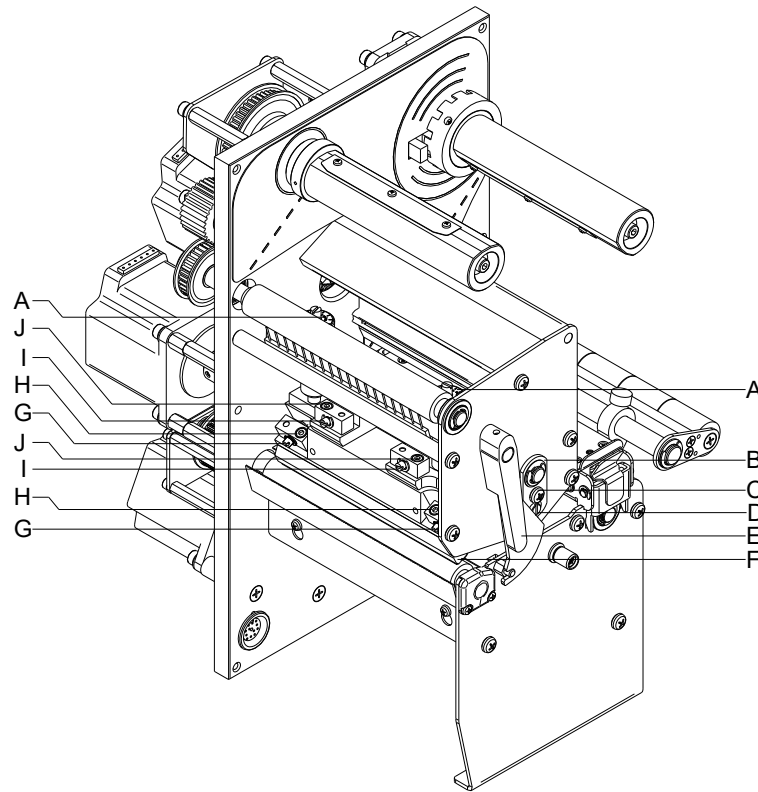

Figure 18
1. Loosen the screws (H or J, Figure 18) with a hexagon key by approx. $\frac{1}{4}$ rotations.
2. Adjust the parallelism with the adjusting screws (G or I, Figure 18).
4. Tighten again the screws (H or J, Figure 18).
After adjusting parallelism and no even strong pressure exists over the complete print width, by means of a plate (B, Figure 18) you can set the balance as follows:
1. Loosen the screw (C, Figure 18) by approx. $\frac{1}{4}$ rotations.
2. In order to achieve a pressure balance, turn the excentric bolt (D, Figure 18) as long as the printing result comes up to your full expectation.
3. Tighten again the screw (C, Figure 18).
1. Turn the pressure screws (A, Figure 18) to change the pressure of printhead.
2. Turning the pressure screws (A, Figure 18) as far as they will go in clockwise direction results in a pressure increase of 10N in contrast to the factory setting.
3. Turning the pressure screws (A, Figure 18) exactly one rotation from the right stop position counter clockwise results in the factory settings.